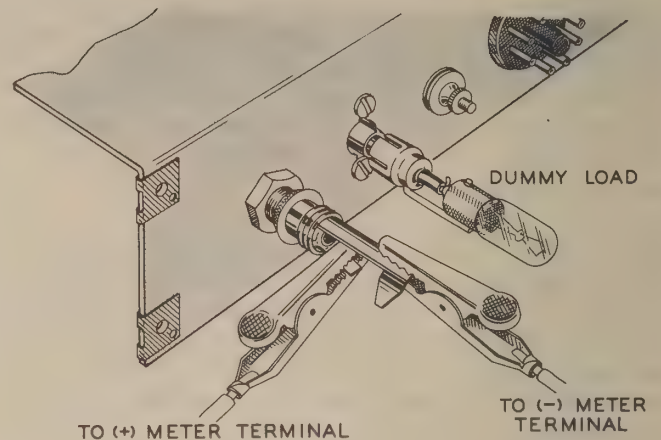

Figure 9
- (✓) Turn the unit OFF and insert the phone plug all the way into the METER JACK on the rear chassis apron. Refer to Figure 9 and connect a DC milliammeter capable of reading 50 ma (milliamperes) DC to the phone plug. Short lengths of hookup wire may be used, if your meter has no leads.